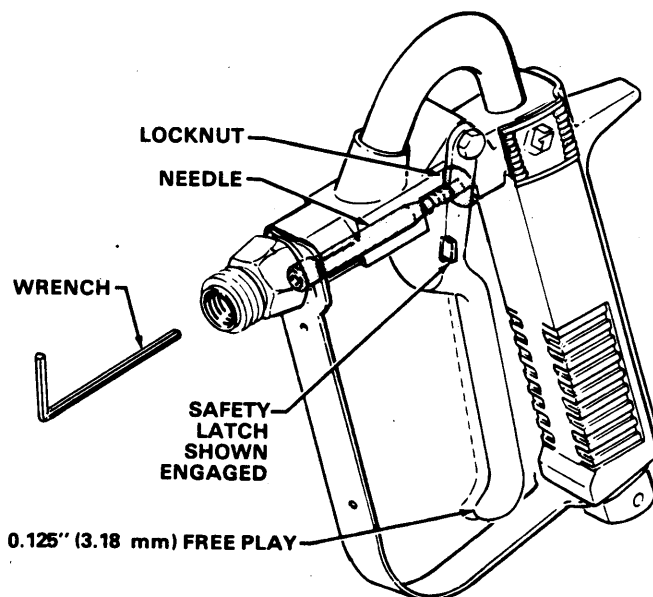

Fig 2
1. With the safety latch engaged, squeeze the trigger. There should be about 0.125 in. (3.18 mm) free play at the end of the trigger. See Fig 2.